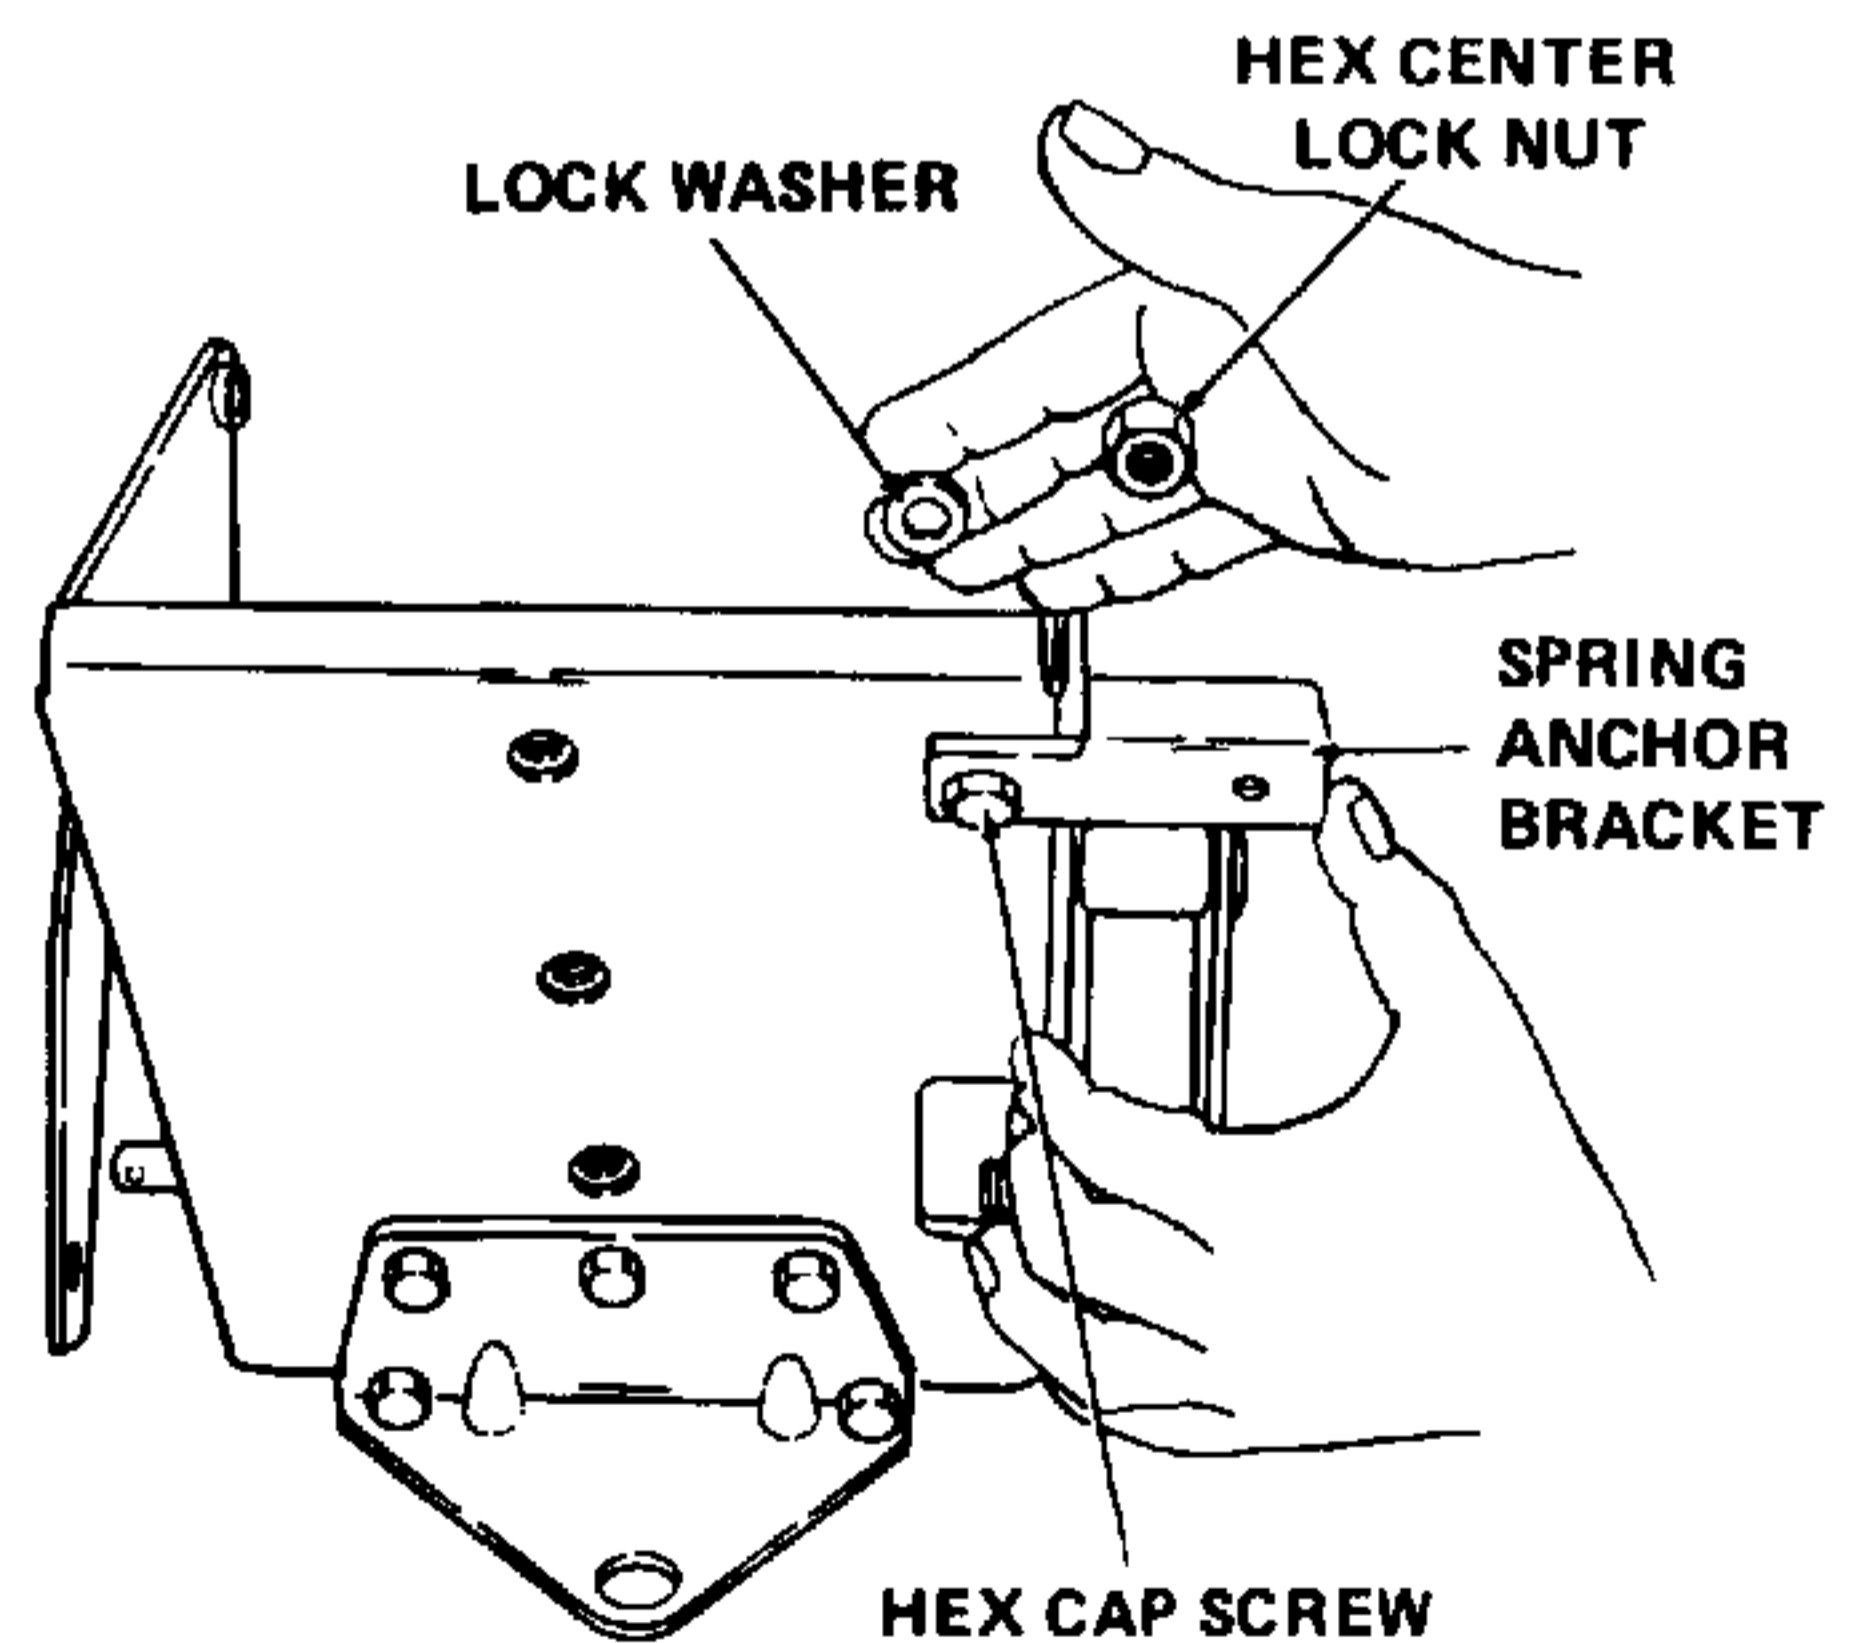

Figure 7-48. Assembling Spring Anchor Bracket to Hitch Plate Assembly (Manual Lift Tractors).
- d. Assemble spring anchor bracket (10, Figure 7-41) to 3-point hitch plate assembly with 7/16-14 x 1.0-inch long hex bolt (8, Figure 7-40), 7/16-inch lock washer (9) and 7/16-14 hex center lock nut (10). Refer to Figure 7-48.